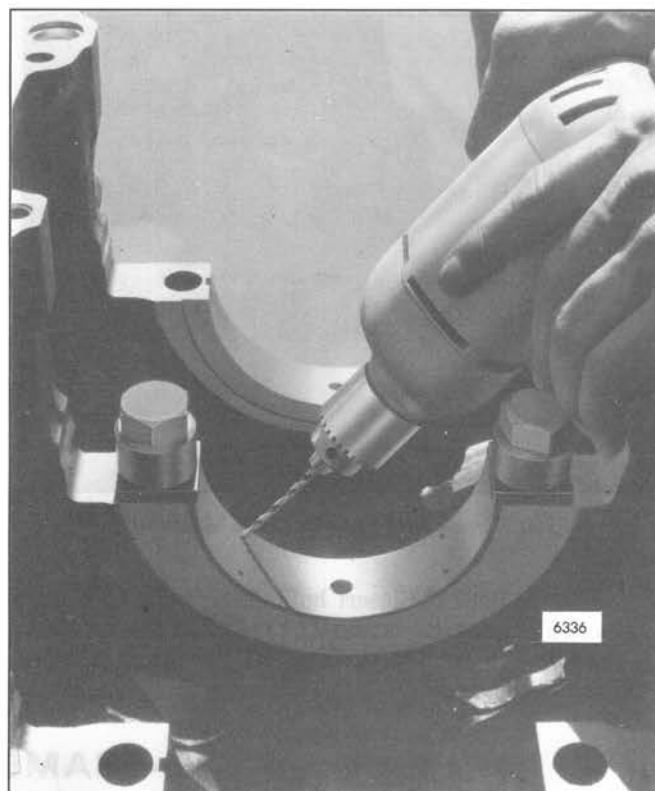

Fig. 8 – Drilling for Rivet Installation
17. Using a 1/8" drill bit, drill four holes in the saddle 1/4" deep through the four predrilled holes in the insert (Fig. 8).